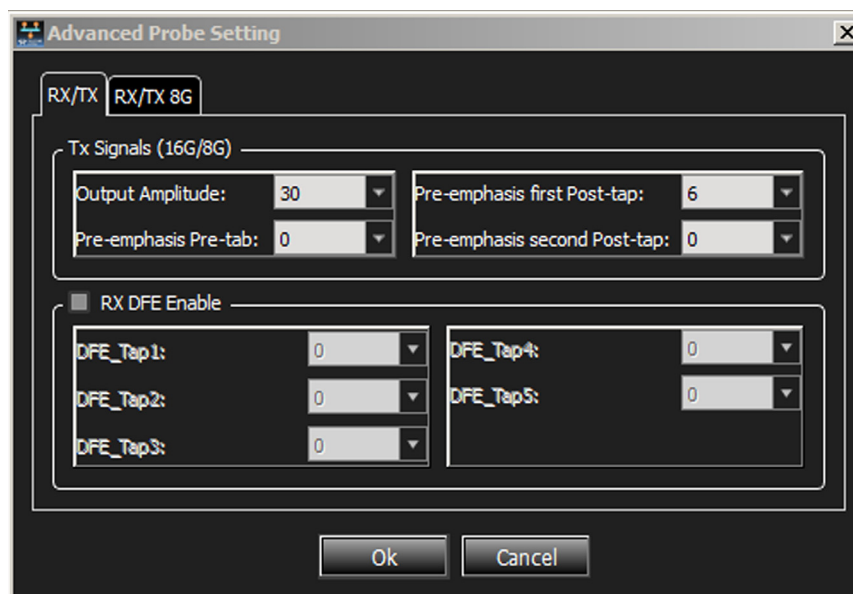
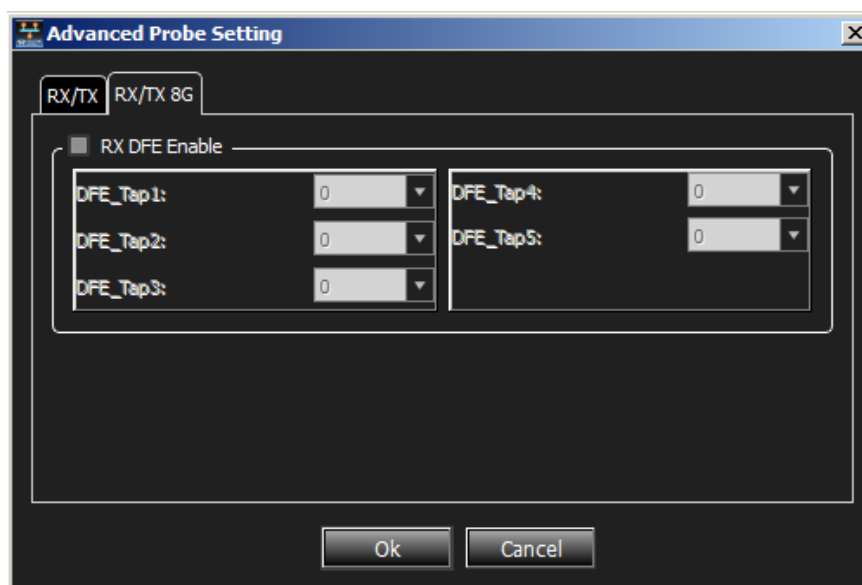

Figure 2.29: Advanced Probe Setting dialog for FC device - RX/TX tab.
Figure 2.30: Advanced Probe Setting dialog for FC device - RX/TX 8G tab.
- ☐ Advanced: Selecting **Advanced** displays the Advanced Probe Setting dialog with the RX/TX tab selected. (See Figure 2.29.) Enter the desired values for each of the parameters. Select the RX/TX 8G tab (see Figure 2.30 on page 56) and enter the desired values for each of the parameters.